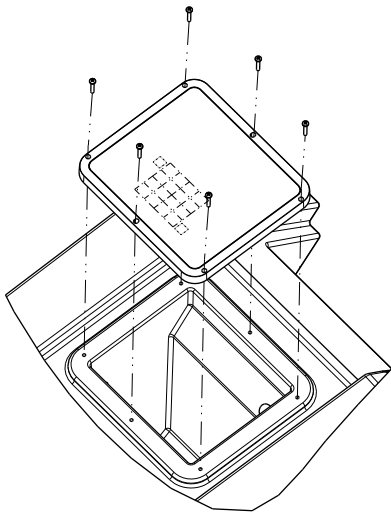

Figure 31: Remove control panel
- 8. Open the top cover of the sampler and remove the control panel mounting screws (see Figure 31).